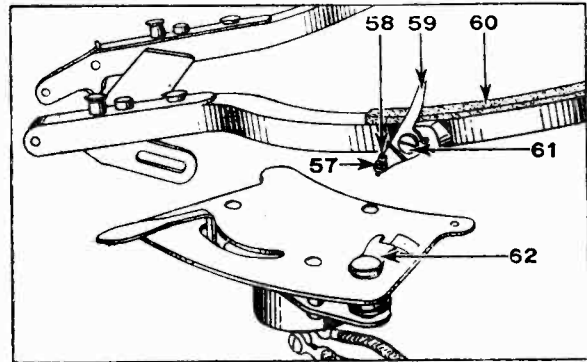

Fig. 3
- The small screw (No. 58, Fig. 3) on the automatic stop is not properly adjusted.